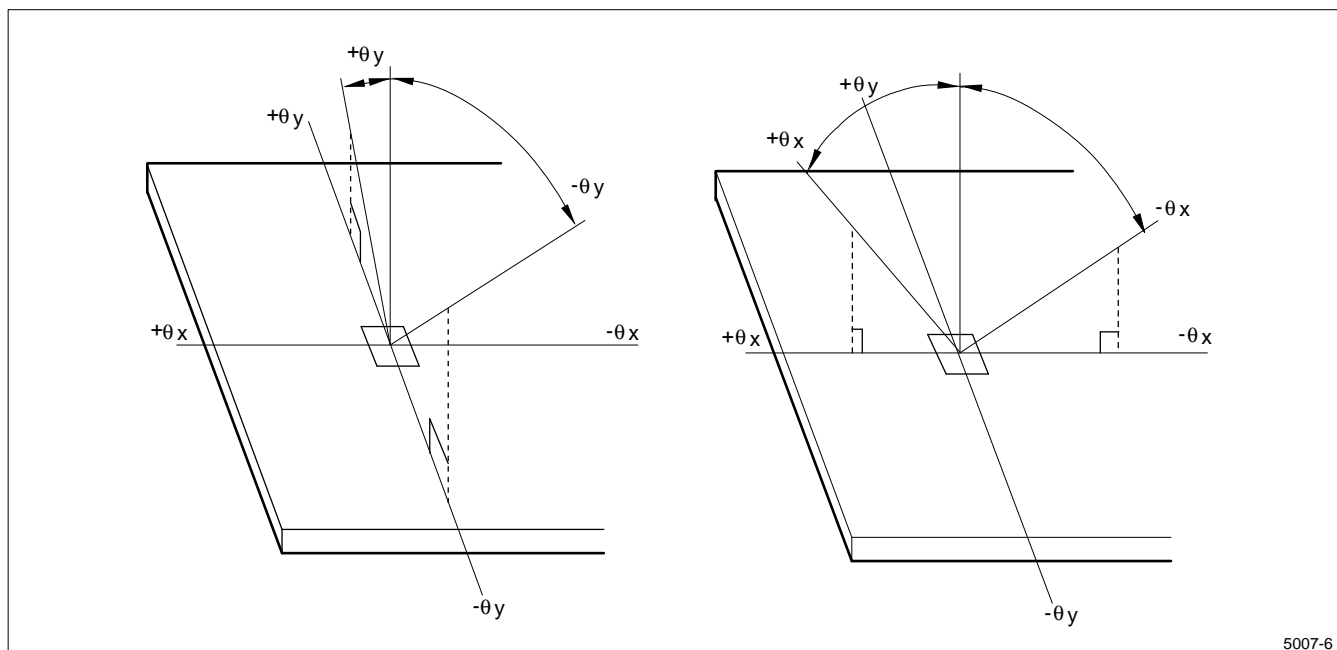

Figure 7. Definition of Viewing Angle
- The viewing angle range is defined as shown in Figure 7.